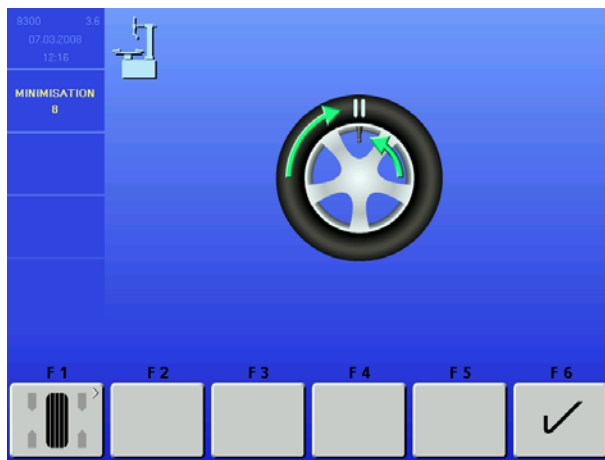

Figure 34
10. Remove the tire/rim assembly from the balancer and break the bead using a tire changer. Rotate the tire on the rim so the double mark and valve stem are lined up. See Figure 34.